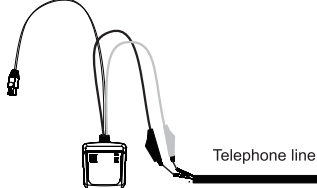

Figure 4. Indicating line conditions
8.Indicating line conditions (Checking polarity)(see Figure 4)